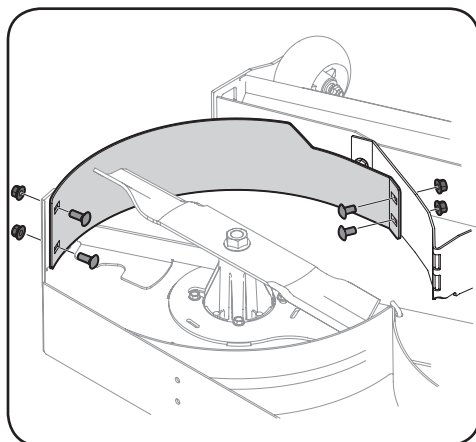

Figure 1-6
2. Install the discharge baffle using the two 1" carriage bolts (and two flange nuts) to secure the back portion, and two $\frac{3}{4}$ " carriage bolts (and two flange nuts) to secure the front portion. See Figure 1-6.